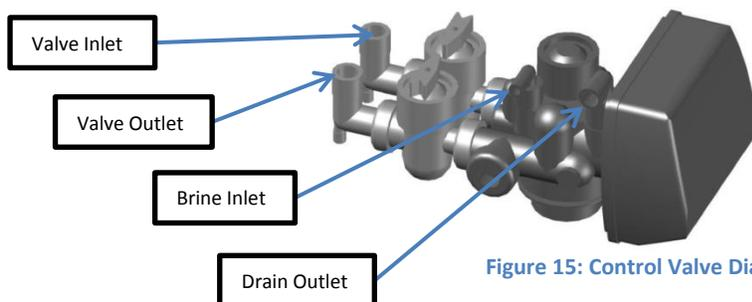

Figure 15: Control Valve Diagram
a. Pipe or tube a line from each Control Valve Drain (Figure 15) to the drain. Refer to section 9 for the proper sized drain line. Put the bypass control valve into bypass operation shown in figure 27.